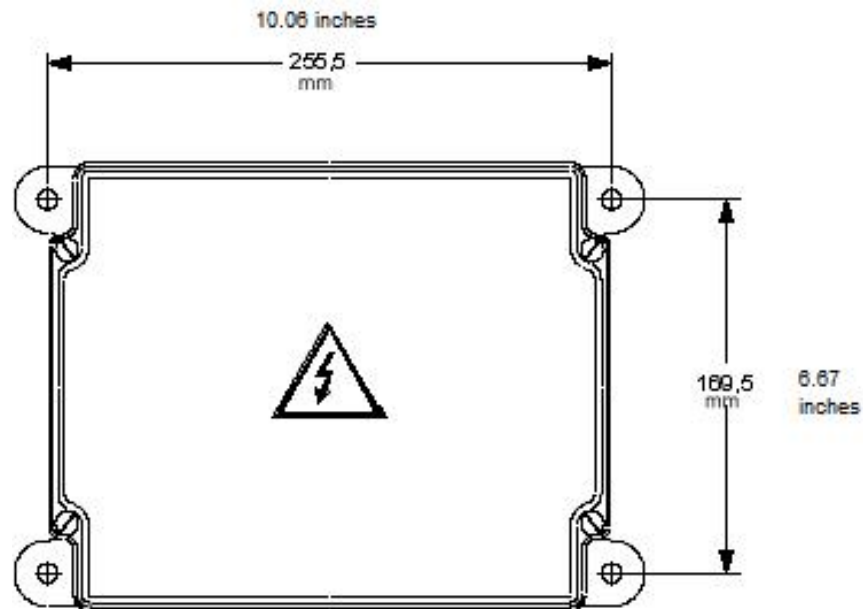

Figure 5. Receiver Footprint
1. Find a suitable location for the receiver with clear access to the transmitter radio signal. Figure 5 below shows the footprint of the receiver and illustrates the distance between the mounting holes.